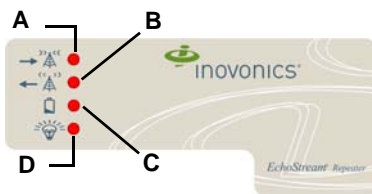

Figure 2 High power repeater front panel
2. Place a selection jumper on the frequency band selection pins appropriate to your geographic area (Figure 2).
6. Plug the connector from the backup battery into the battery connector (Figure 2).
- Attach one of the mounting screws to the wall through the tamper mounting hole (Figure 2).